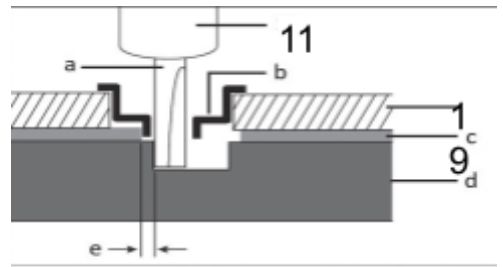

Figure 9
3. Template & guide bush routing (Figure 9)
- **Template Function:** Templates (**Figure 9-c**), when used with a guide bush (**Figure 9-b**), enable the router to create consistent and repeatable shapes in your workpiece.
- **Understanding Offset:** Be aware that the cut on the final workpiece will differ from the template opening. The guide bush offset (**Figure 9-e**) must be calculated before cutting.